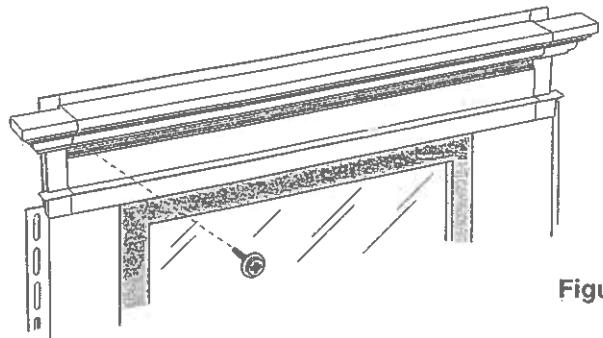

Figure 7
7. With Mantel and End Caps in place as one unit, center Mantel over window/door frame and attach through pre-drilled holes, using screws/washers provided (Figure 7).